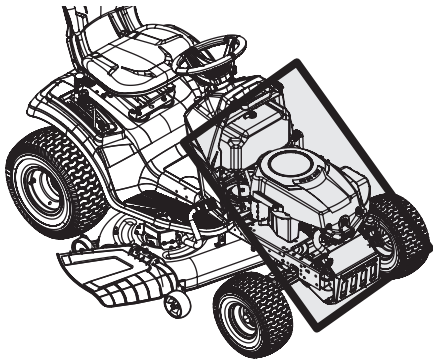

Figure 30
- Clean under the hood, including exhaust manifold, around fuses, all wiring and harnesses, muffler pipe, muffler shield, engine intake screens and cooling fins, etc. See Figure 30.